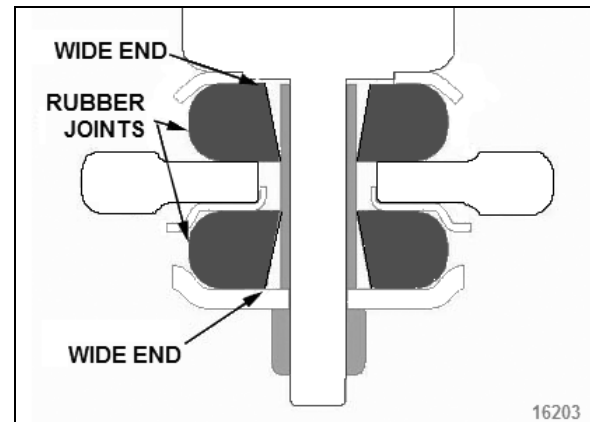

FIGURE 42: LOWER SHOCK MOUNTING BUSHINGS 16203
3. On the lower mounting, take care to install the rubber joints with the wide end of the tapered hole as shown in Figure 42.